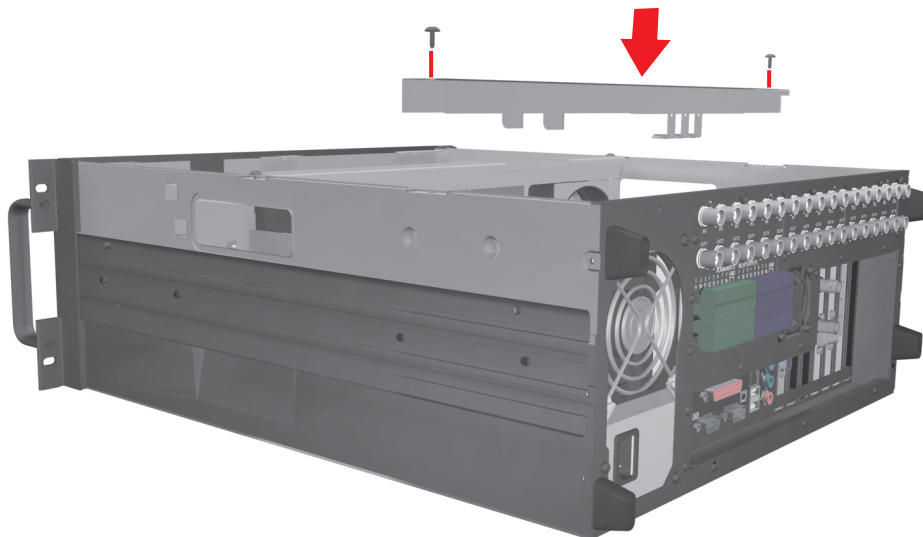

Figure 13. Replacing Front Cross-Brace
1. Replace the rear cross-brace, and secure it with the flat-head screws you set aside earlier. Refer to Figure 13.